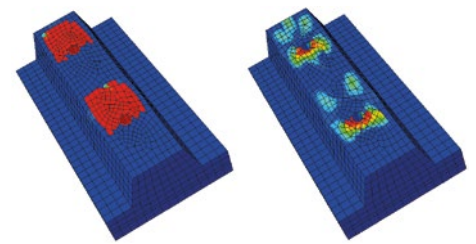

Figure 1: Concrete damage in a) Compression and b) tension at a slip of 10 mm
- The longitudinal stud spacing is not less than 200 mm. When studs are more closely spaced there is an increased likelihood of interaction between adjacent studs resulting in slab splitting, but the FEM demonstrated that even at slips of 10 mm - which is almost twice the slip anticipated by BS EN 1994-1-1; there is no interaction for studs at 200 mm centres (Figure 1 here).